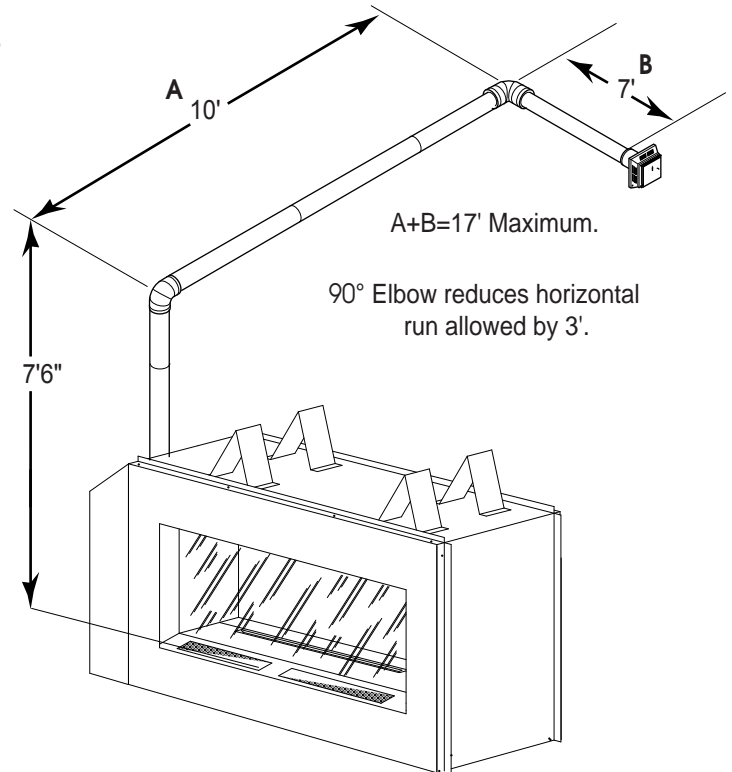

Figure 20 - Maximum Vent Run with Elbows
- If a 90° elbow is used in the horizontal vent run (level height maintained) the horizontal vent length is reduced by 36" (914 mm) (Fig. 20 A and B) This does not apply if the 90° elbows are used to increase or redirect a vertical rise. See Figure 19.
In Figures 20 and 21, Dimension A plus B must not be greater than 17' (5.2m).